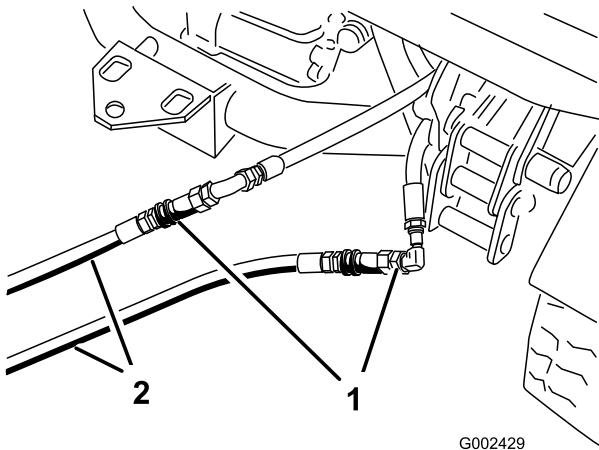

Figure 66
3. On the disabled machine, connect the two jumper hoses to the hoses that were disconnected (Figure 66).